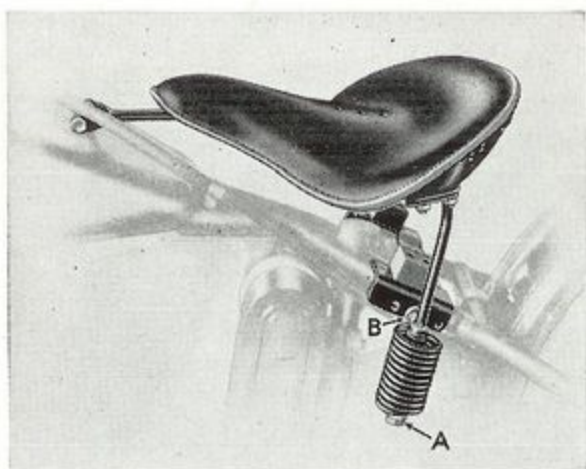

Figure 6
**Models 236 and 336 without Spring Seat Post**—(Fig. 6). The height of the saddle is adjusted by means of the hexagonal nuts “A” at the lower ends of the saddle spring truss. To lower the saddle turn the nuts “A” up on the spring truss; to raise, screw the nuts downwards. The easiest way to adjust saddle height is to remove the lower nuts and lift
To provide for forward or backward adjustment of the saddle there are three sets of holes on the rear bracket and a long slot in the saddle front connection. When changing the saddle position, loosen the nuts that hold the nose of the saddle to the front connection, move the saddle truss bolts "B" (Fig. 6) to the desired hole in the rear bracket. Move the nose of the saddle the same distance in the same direction and tighten all nuts and bolts. Also move rubber bumper.